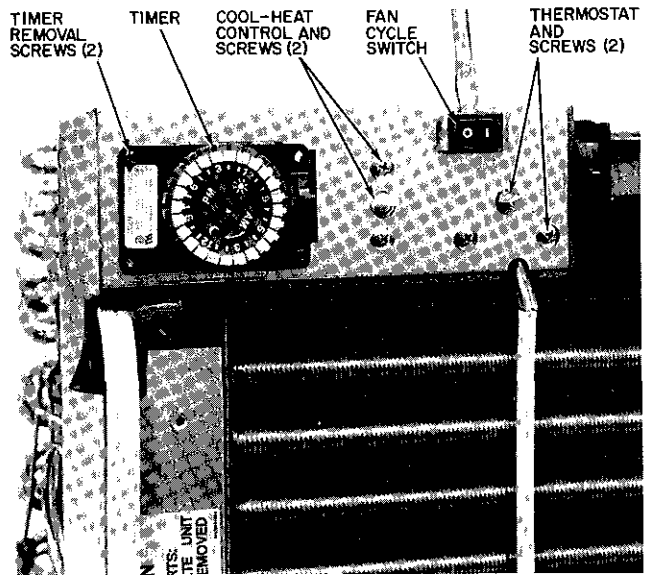

Fig. 11 — Control Locations
- 8 **Timer** — See location of timer in Fig 11
- 9 **Cool-Heat Control** — See Cool-Heat Control location in Fig 11
- 10 **Fan Cycle Switch** — See Fan Cycle Switch location in Fig 11
- a Remove fan cycle switch using screwdriver as shown in Fig 11
- 11 **Thermostat** — See Thermostat location in Fig 11